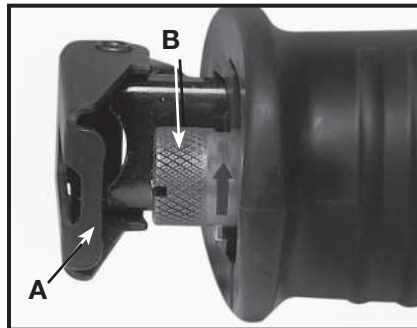

Fig. 6
2. Pivot the guide shoe (A) Fig. 6, forward to improve access to the blade clamp (B) Fig. 6.